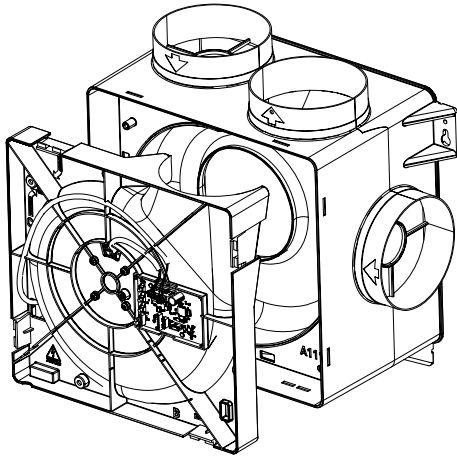

Figure 13: removing the motor plate
3. Secure the CO₂ Box sensor from the outside in the desired duct port by clicking it into place on the rib closest to the motor plate (Figure 13: Clicking the CO₂ Box sensor into the duct port). To do this, make a tilting movement by first tightening the lower and then the upper clamp.